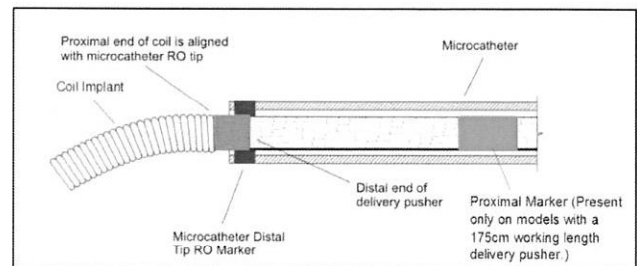

Figure 4 – Position of Marker Bands for Detachment
25. Advance the coil into the desired site until the radiopaque marker on the delivery pusher is aligned or slightly distal of microcatheter distal tip RO marker, positioning the detachment zone just outside the microcatheter tip. See Figure 4.